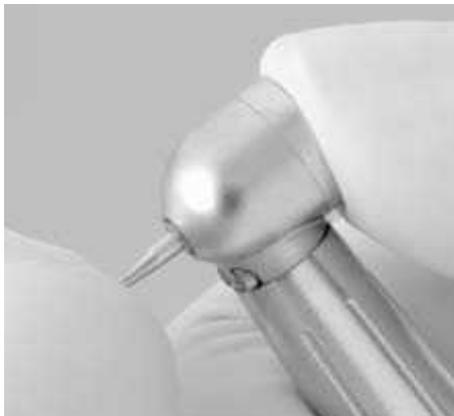

Figure 2
3. To remove a bur, fully depress push button hard and fast while simultaneously pulling bur until removed from chuck. **Figure 2.** Push button may then be released until next bur is inserted.